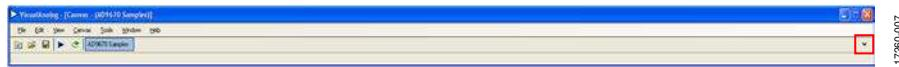
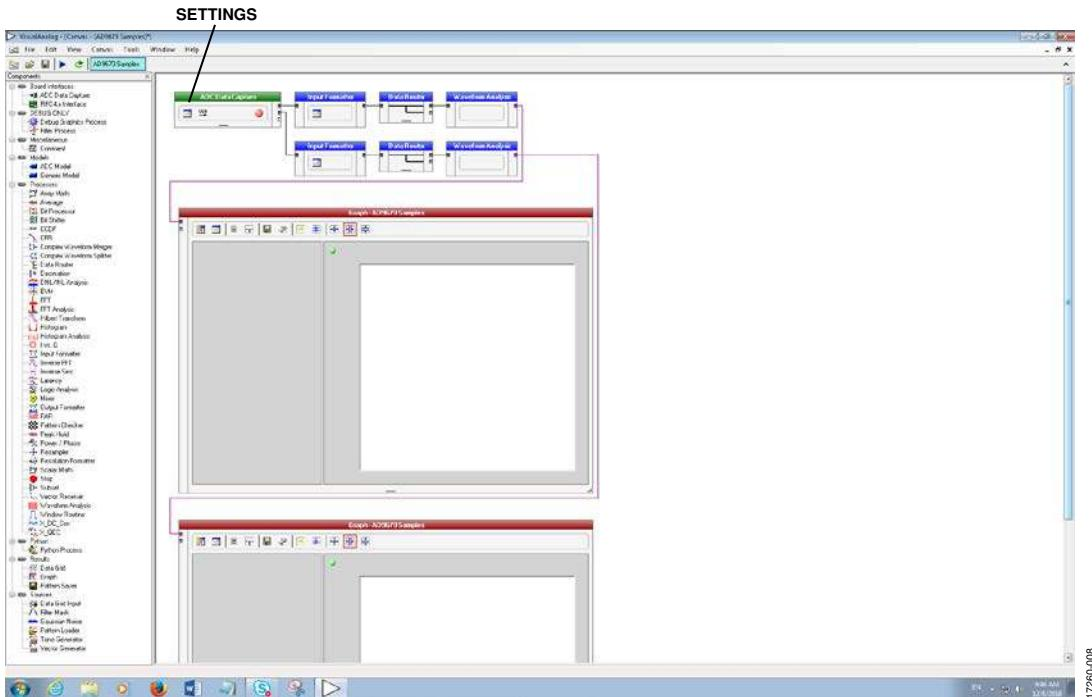
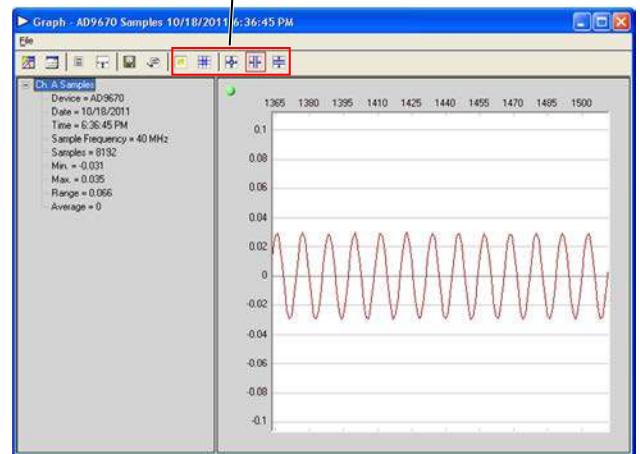

Figure 7. *VisualAnalog* in Window Collapse Mode
Figure 8. *VisualAnalog* Sample Canvas
Figure 10. Data Capture Window
9. If the **VisualAnalog** software opens and only shows the task bar, as shown in Figure 7, click the down arrow on the right side of the window to expand the **AD9670 Samples** canvas (shown in Figure 8) to see the signal processing flow.
10. Next, load the FPGA binary file into the hardware. To load the file, click the **Settings** button in the **ADC Data Capture** block (see Figure 8).
12. The **AD9670** is now running and fully configured for data capture mode. The **VisualAnalog** software offers two data capture modes: onetime and infinite loop. Click the blue right arrow (see Figure 7 or Figure 8) to run the canvas in onetime mode and click the green repeat button (see Figure 7 or Figure 8) to run the canvas in infinite loop mode. The **Samples** canvas then opens two windows showing 8192 time domain samples for Channel A and Channel B (see Figure 10 for the Channel A window).